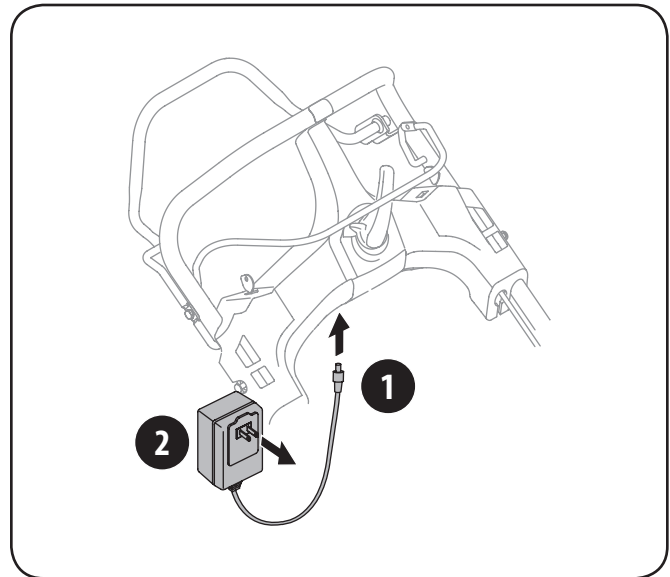

Figure 7-4
- Plug the battery charger into the port on the underside of the battery housing. See Fig. 7-4.